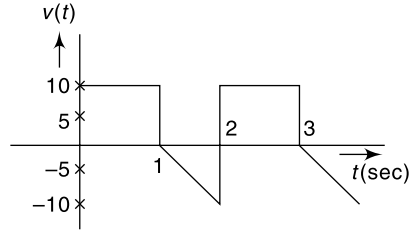

Fig. 5.72 Waveform for Ex. 5.116
5.116 Obtain the average and rms values of the waveform shown in Fig. 5.72.